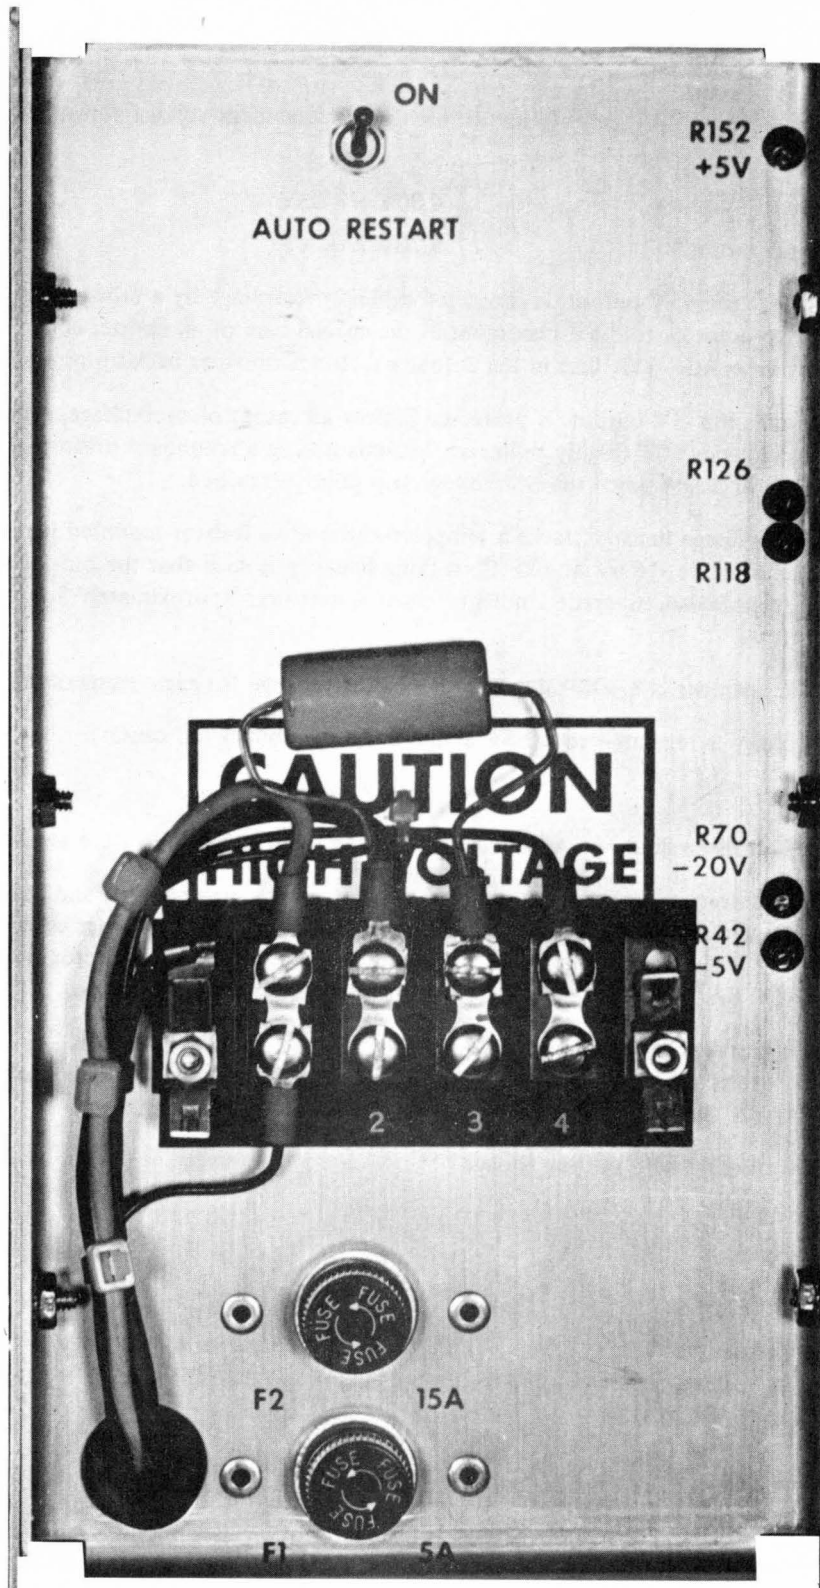

Figure 3-18 GRI-909 Power Supply
The GRI Model S49 Power Supply furnishes the multiple power requirements of the GRI-909 Computer. The power supply protects the computer from both hardware and software damage during powerup, powerdown, and fault conditions (such as line failure or regulator malfunction). Internal circuitry provides sequenced powerup and powerdown, fault sensing and protection, automatic restart, and software signaling of power status. Figure 3-18 shows the power supply.
3.9.5.1 Input Power and Bias Supplies — When the computer POWER switch is turned on, power is applied, via a protective fuse, to the primary of a constant voltage transformer preregulator. The secondary voltages of this transformer are rectified and filtered to provide the following voltages: ( see Figure 3-18 )